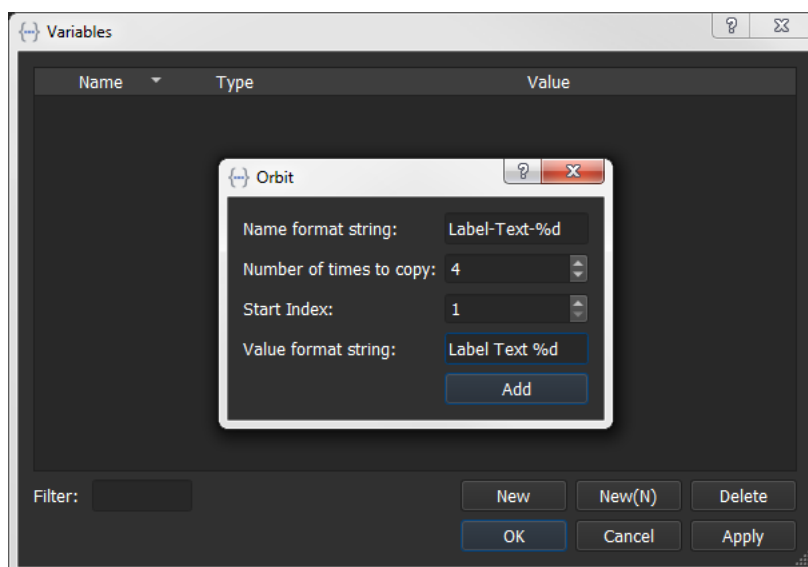

Fig. 4-36: Orbit Variables and New Variable Dialogs
- 4 Set up the new variable dialog as shown in Figure 4-36.